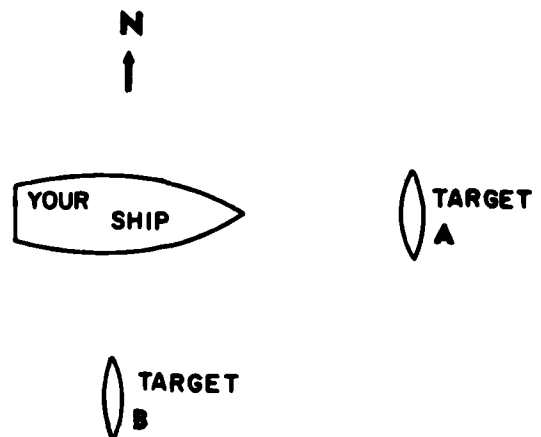

Figure 3A.--Bearings.
- 3-6. What is the true bearing of target A in figure 3A?
- 3-7. What is the true bearing of target B in figure 3A?
- 3-8. The relative bearing of target A in figure 3A is
- 3-9. The relative bearing of target B in figure 3A is